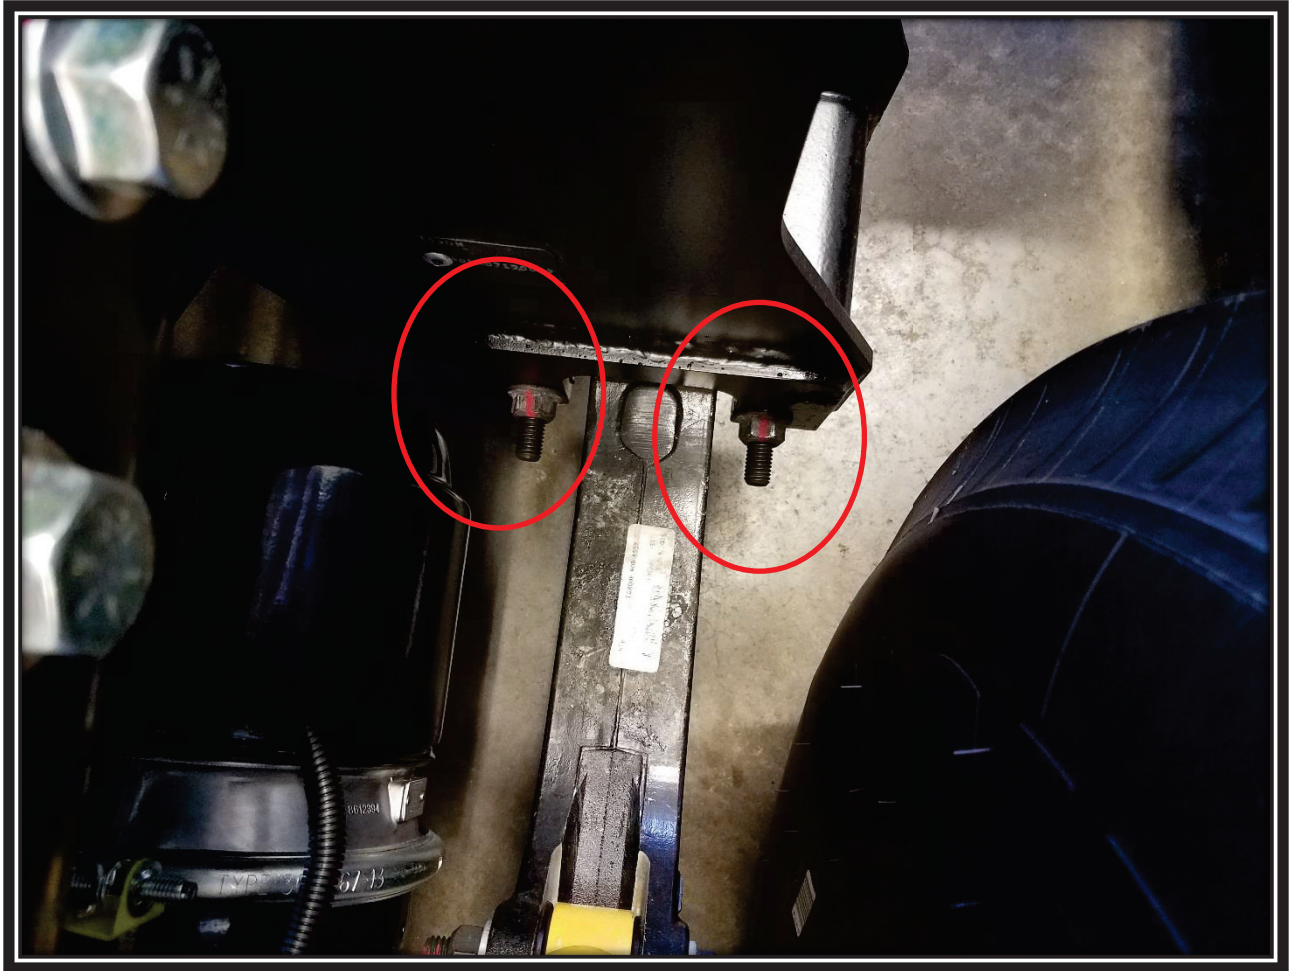

FIG. 6-1
1. Check orientation of torque rod mounting fasteners. Bolts pointing forward are incorrect. Refer to FIG. 6-1. for incorrect orientation. If bolt orientation is incorrect, proceed to step 2.